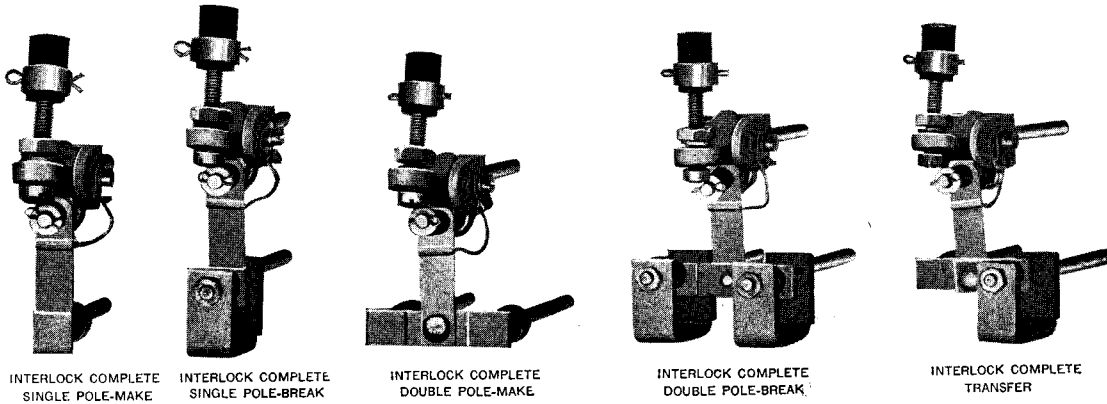
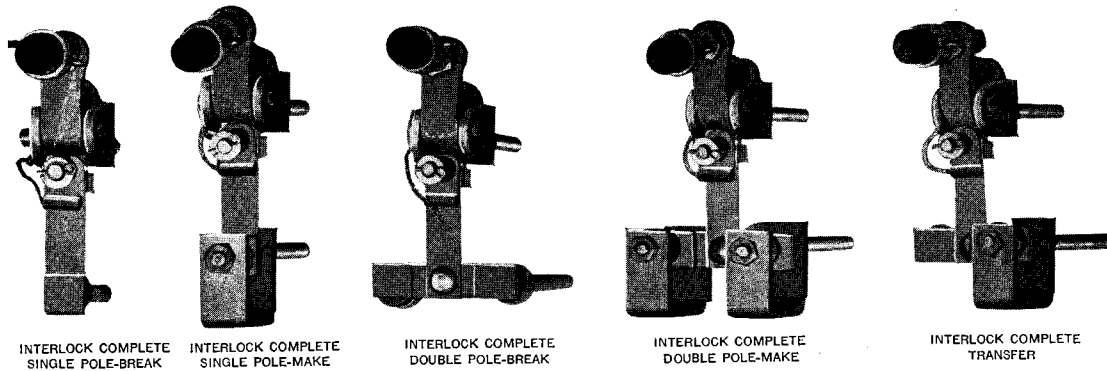

Fig. 1
Fig. 2
2. Specify the type of interlock—as shown on Figure 1 or Figure 2, Page 1.